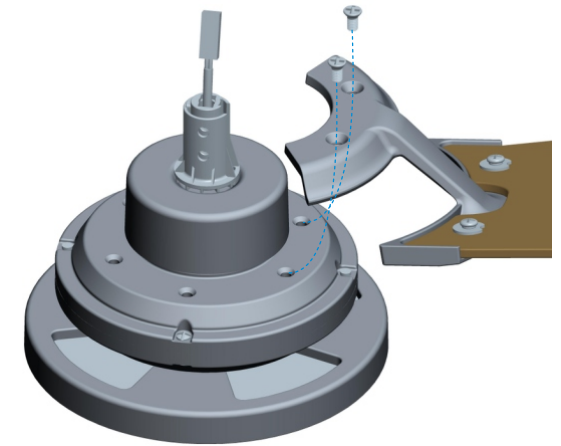

Fig 2.1
2.1 Fix each prepared blade bracket to the motor assembly with the blade bracket screws as shown in Fig 2.1.